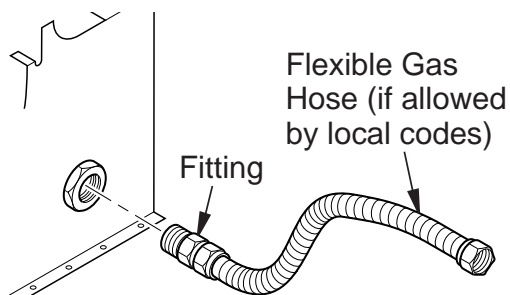

Figure 11 - Attaching Flexible Gas Hose to Heater
1. Connect approved flexible gas hose to gas control fitting in heater (see **Figure 11**).